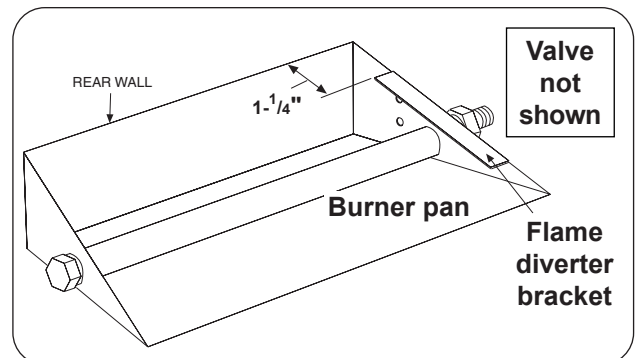

Fig. 7-1 Install diverter bracket (if applicable)
1. Place the flame diverter bracket over the side edge of the burner pan, near the location the safety control system pilot bracket will be attached. It should be placed **approximately 1-1/4"** from the rear wall of the burner pan (see Fig. 7-1).